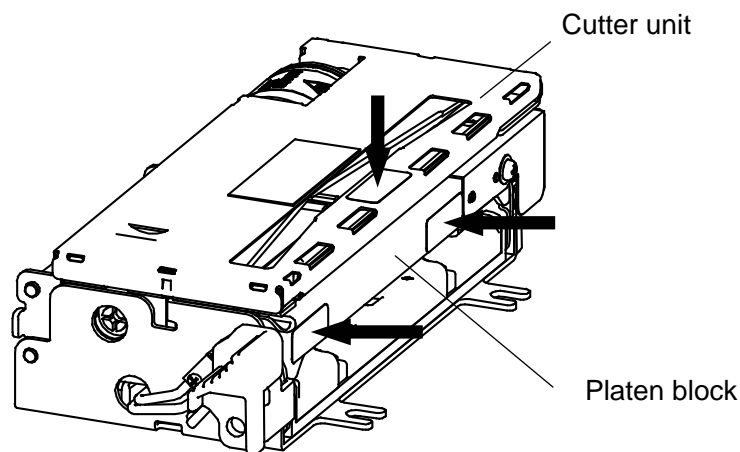

Figure 8-1 How to Close the Cutter Unit and the Platen Block
(1) Loading thermal paper
- Make sure that the cutter unit and the platen block are in close state. Insert thermal paper using the auto loading system. (See Figure 8-1)
- Push the green labels shown by arrow marks in the Figure 8-1 to close the cutter unit and the platen block. Pushing other areas may cause print defects or cutting defects.
- When the platen block is closing, it may stop in the midway depending on the gear meshing. In such a case, open the platen block by using the platen release lever and then close it again. (See Figure 8-1)